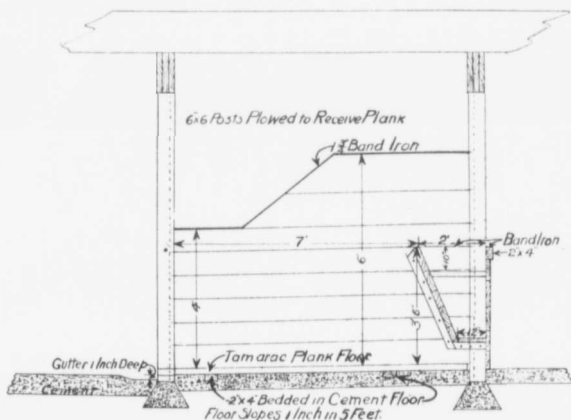

Figure 5
**HORSE STALL.** Figure 5 shows the construction of a horse stall. The stall has a plank floor which is generally believed to be better for the horses to stand on than cement. Where the horses are sharp shod they dig holes in the floor and it is easier to repair the floor by putting in a new plank than to repair the cement. If the floor is cemented over, two 2 x 4s are bedded in the cement to spike the plank to. At the end of the plank there is one inch drop in the cement floor; this allows for drainage from beneath the plank. The floor slopes toward the gutter about one inch in five feet. The stall posts are 6 x 6 plowed to receive